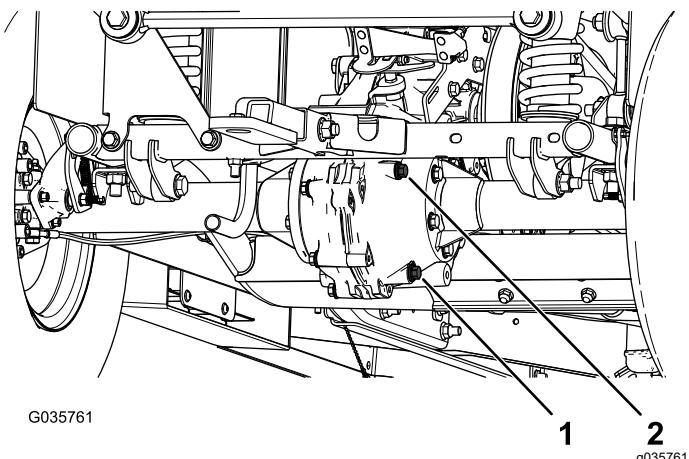

Figure 56
4. Remove the fill plug on the transaxle (Figure 56).
5. If the fluid level is low, remove the fill plug and add the specified fluid until it runs out of the hole (Figure 56).
1. Align a drain pan under the drain plug (Figure 56).
2. Remove the fill plug and the seal (Figure 56).
3. Remove the drain plug and the seal, and allow the fluid to drain completely (Figure 56).